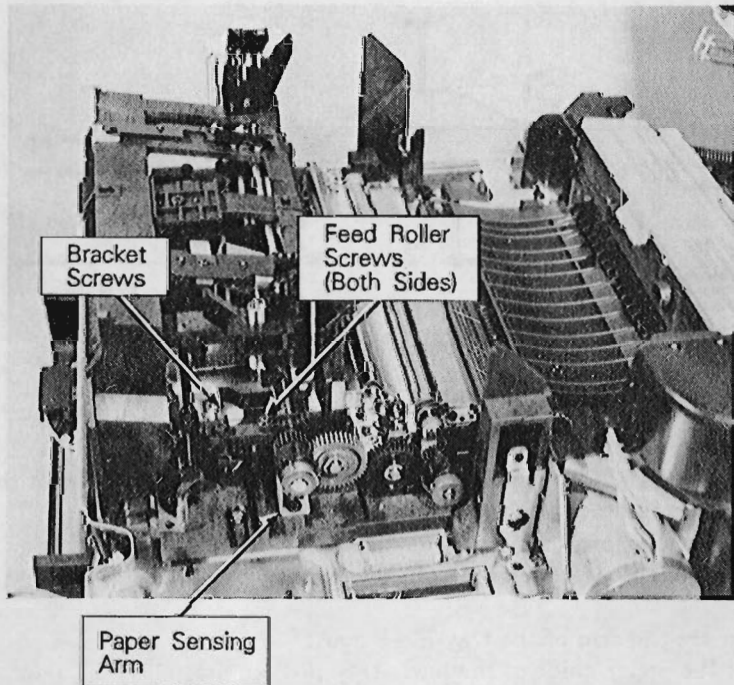

Figure 6-33. Feed Roller Assembly
2. Remove the (1) screw securing the Paper Sensing Arm bracket to the Main Body Assembly (see Figure 6-33 for location).
3. Remove the (2) screws that secure each end of the Feed Roller Assembly (see Figure 6-33).